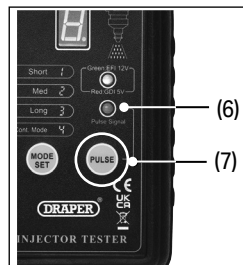

Fig. 4
6. Once the **'Pulse mode'** is selected press the **'Pulse'** button (7) to generate the pulse. The **'Pulse indicator'** (6) will flash as the signal is generated. Fig 4